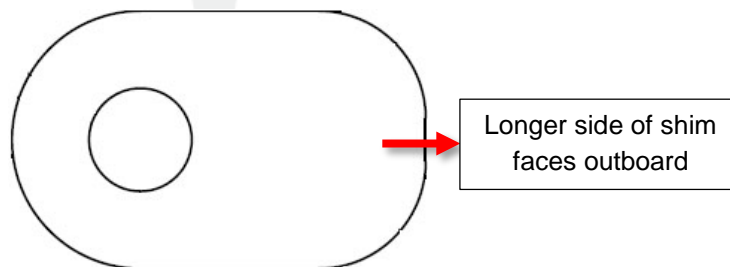

Figure 2
5. On both sides of the vehicle, install a friction shim between the steering rack and the subframe. If the shim is rectangular with rounded corners (Figure 2), ensure that the longer side of the shim faces outboard.